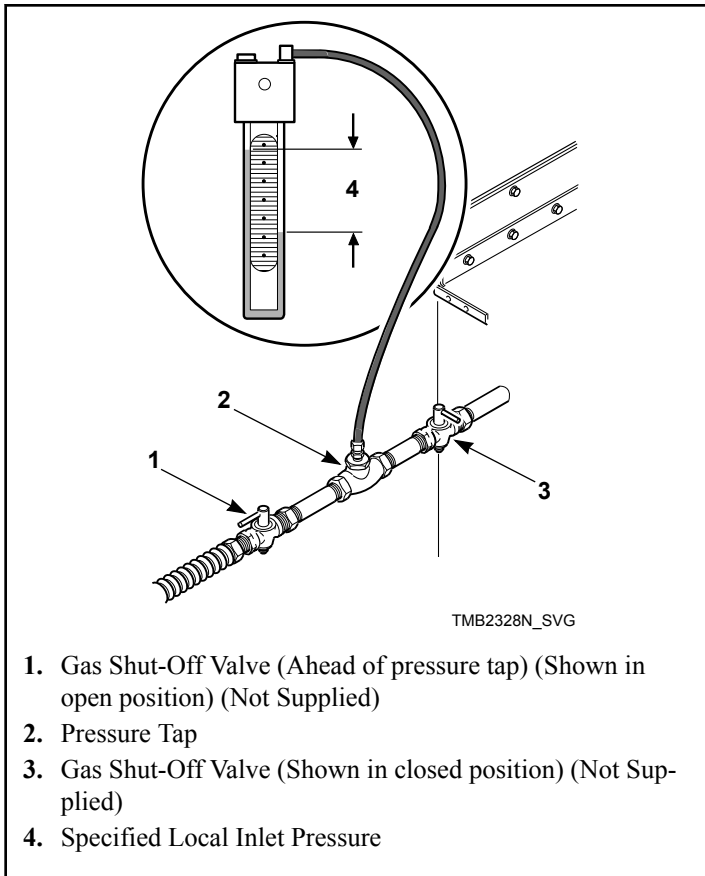

Figure 15
1. Disconnect electrical power from tumble dryer. Close gas shut-off valve to tumble dryer. Refer to *Figure 15* .